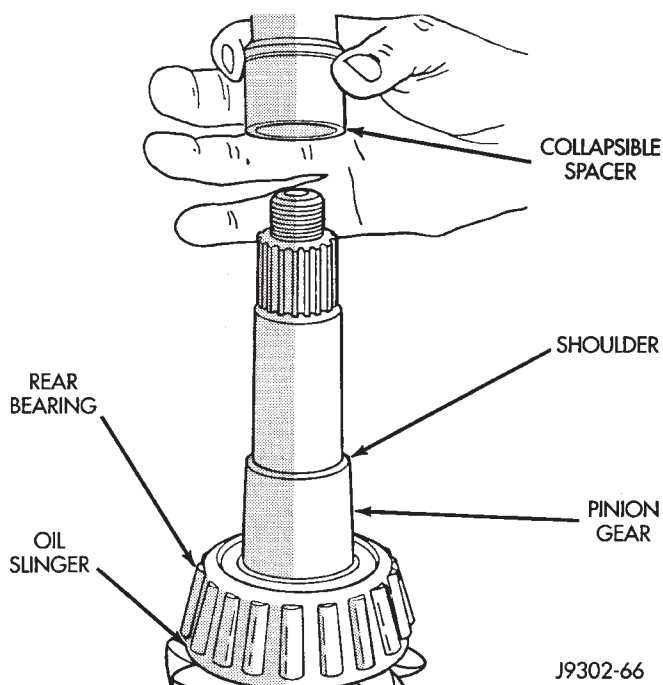

Fig. 45 Collapsible Spacer
- (10) Remove the collapsible preload spacer from pinion gear (Fig. 45).